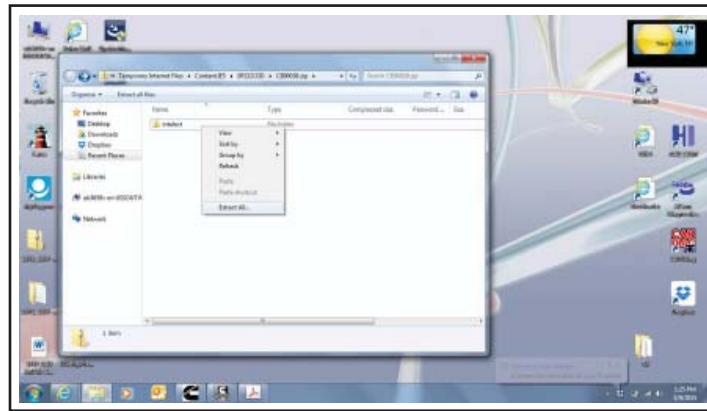

Figure 6 - Intellect File
- 1.6. Go into recent places to find the file called Intellect. Right click and choose Extract all. See Figure 6.